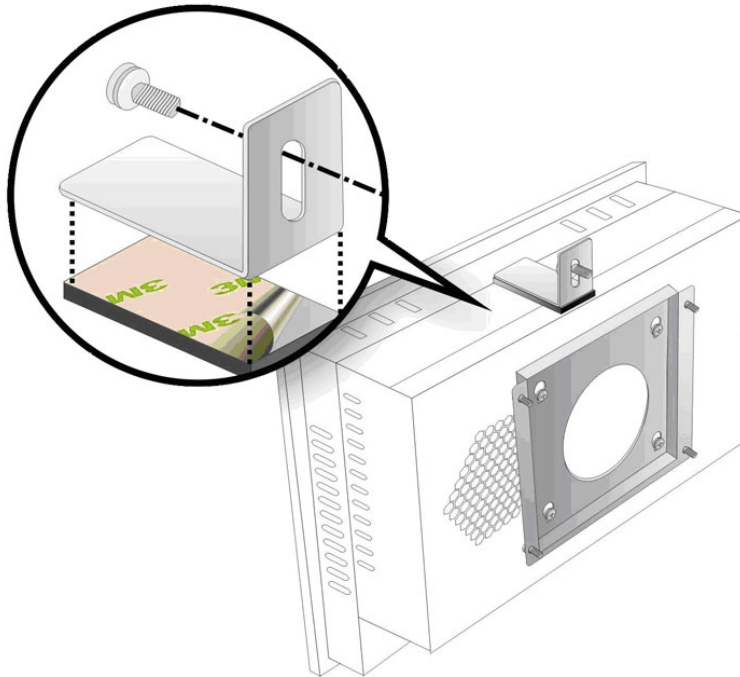

Figure 3-10: Secure the Chassis
**Step 8:** Secure the panel PC with the wall-mounting kit. To do this, stick the protective cushion to the wall-mounting kit first. Then, put the wall-mounting kit on the top panel of the panel PC. Carefully mark the location of the wall-mounting kit screw holes on the wall. Drill a pilot hole at the marked location on the wall. Secure the wall-mounting kit to the wall by inserting a retention screw into the pilot hole on the wall (**Figure 3-10**). This step is to avoid the panel PC being pushed apart from the wall-mounting bracket accidentally.